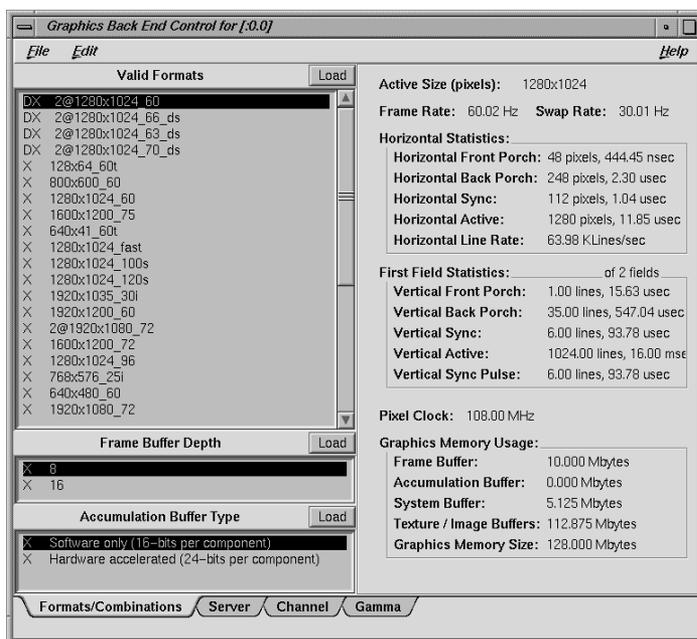

Figure 3-1 Graphics Back End Control Window
The Graphics Back End Control window appears, as shown in the example in Figure 3-1.
1. Choose the desired frame buffer depth in the Graphics Back End Control Window (see Figure 3-1), then click the **Load** button.
4. Choose the desired Accumulation Buffer Type in the Graphics Back End Control Window (see Figure 3-1), then click the **Load** button.